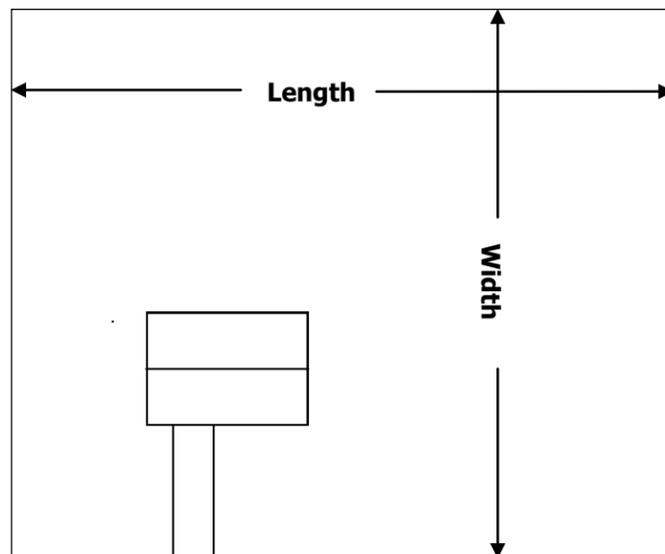

Figure 1
3. Attach Control Cable and Tighten three wing nuts, as shown in Figure 1.